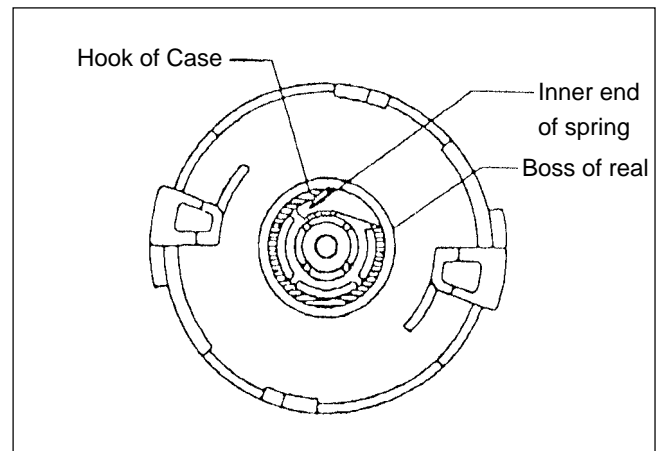
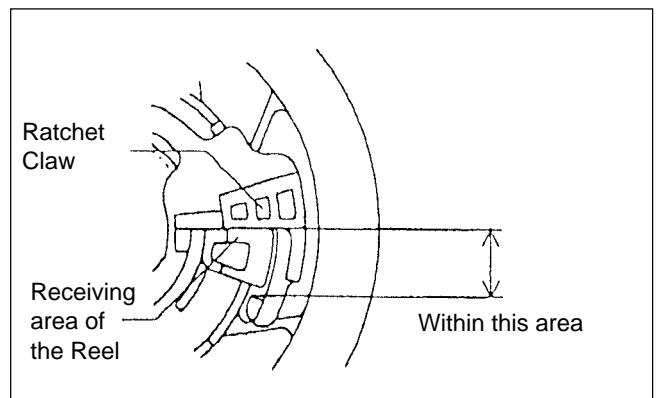

Fig. 10-12
Fig. 10-13
(1) Setting the reel into the case.
-2: Hook the inner end of spring to the hook of case and put the reel into the case. (Fig.10-12)
(2) Assemble the component parts.
-1: Put the ratchet in the reel so that the receiving area of the reel is within the area illustrated in Fig.10-13.